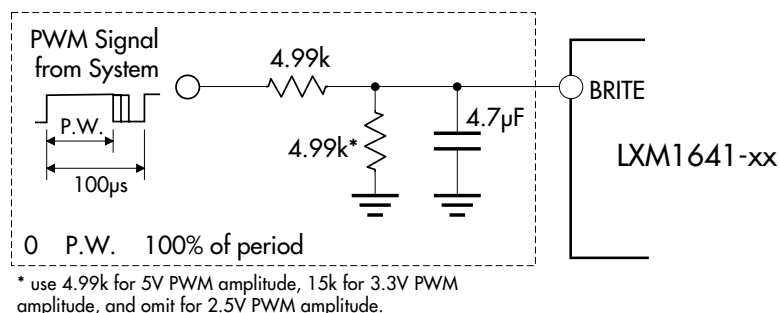

FIGURE 11 — PWM Brightness Control
- The brightness control may be a simple 10k potentiometer or a voltage output DAC. A PWM signal from a micro-controller may also be used with a suitable filter such as shown in Figure 11.